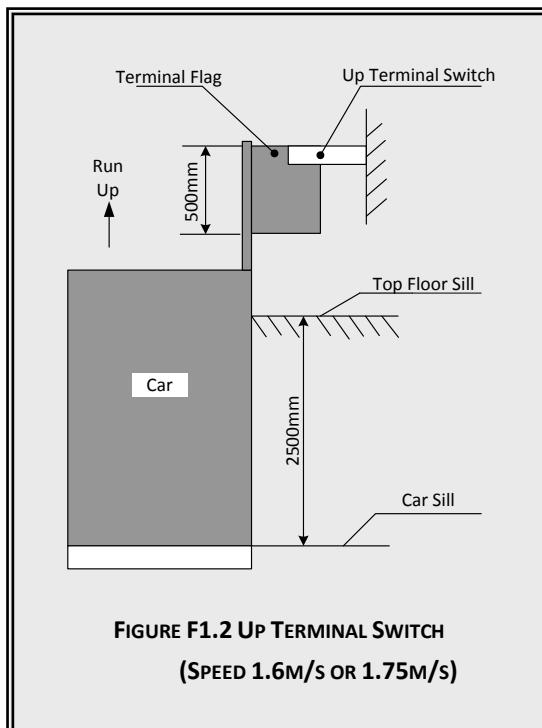

FIGURE F1.2 UP TERMINAL SWITCH
2. Up/Down terminal switches are installed in hoistway guide rail; terminal flag is installed on top of car. Their positions are shown blow in Figure F1.2 & F1.3.